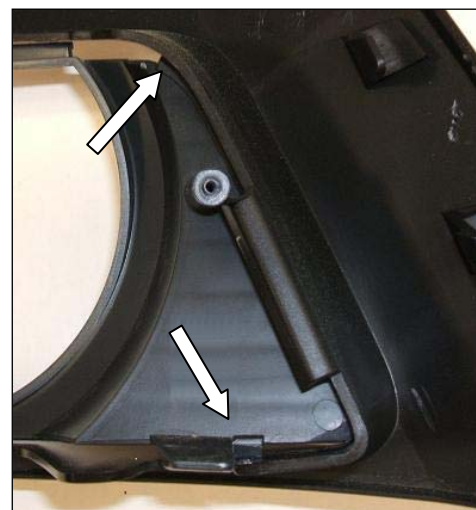

Figure 11
- At the same time, unhook the two end tabs. Refer to Figure 11